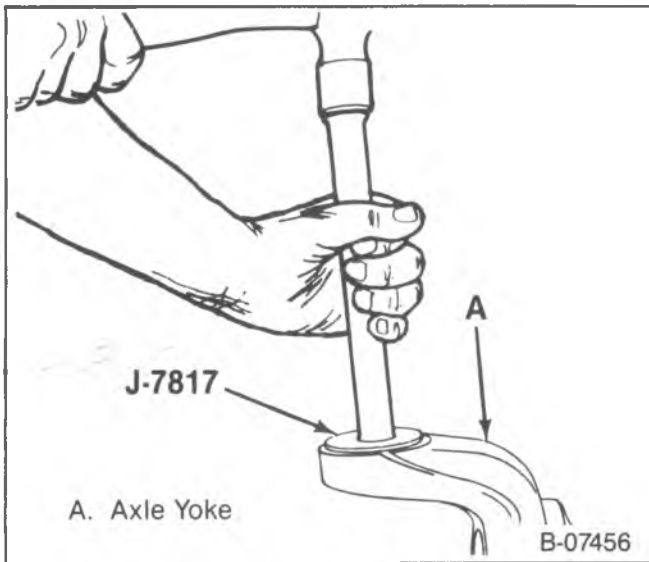

Figure 56—Installing the Retainer
1. Retainer (281) and the race (282).
- Use J-7817 (figure 56).
2. Fill the area in the retainer (281) and race with an approved high temperature bearing lubricant. Grease the bearing (282).